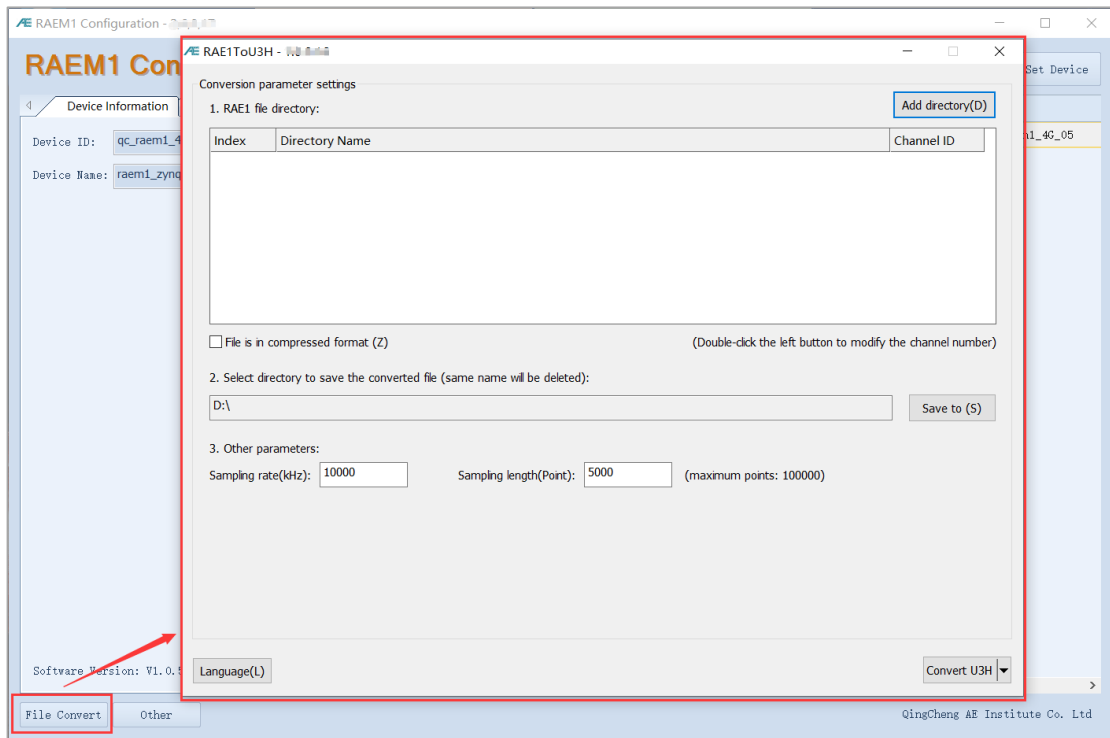

Fig. 9-1 Open RAE1ToU3H
2) Open **RAE1toU3H.exe**. It can also be opened through **RAEM1 Configuration software >> File Convert** button at the bottom left corner. See Figure 9-1.